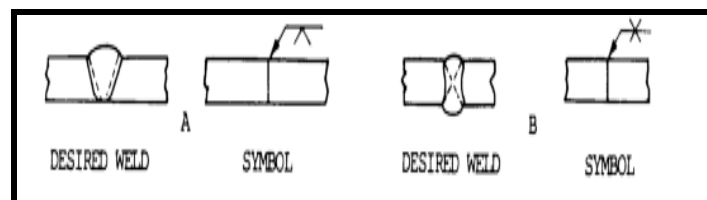

Figure-10: Groove weld for welds extending through the members to be joined.
3.3 Single-V and Double-V Groove welds – The size of groove welds shall be shown to the left of the weld symbol (figure-10). When the welds differ in dimensions, both values shall be mentioned as shown in the figure.